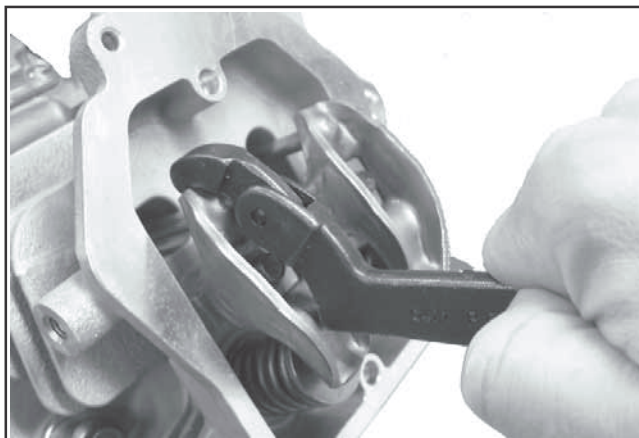

Figure 10-55. Using Spanner Wrench to Lift Rocker Arm Over Push Rod.
5. If push rods were not already seated, use a spanner wrench or rocker arm lifting tool (see Section 2), to lift the rocker arms and position the push rods underneath. See Figure 10-55.